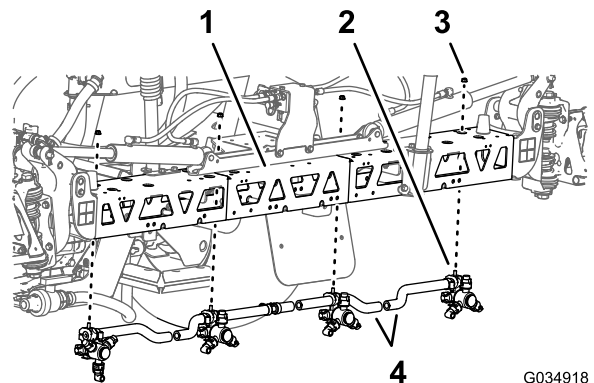

Figure 68
5. At the center-boom section, cut the hose between 2 sprayer nozzles (Figure 68).
6. Remove the flange locknut (5/16 inch) that secures the sprayer nozzle to the nozzle support (Figure 68).